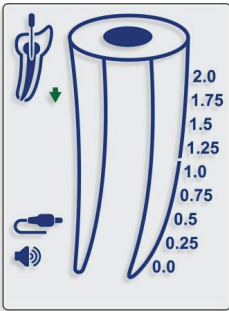
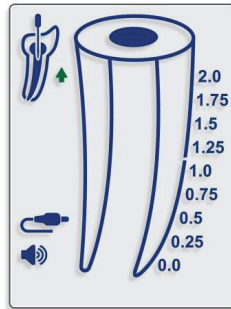

Fig. 5
Fig. 6
- 7.4.10 Movement of the file inside the canal is reflected by the DOWN (Fig. 5) and UP (Fig. 6) arrows on the screen.